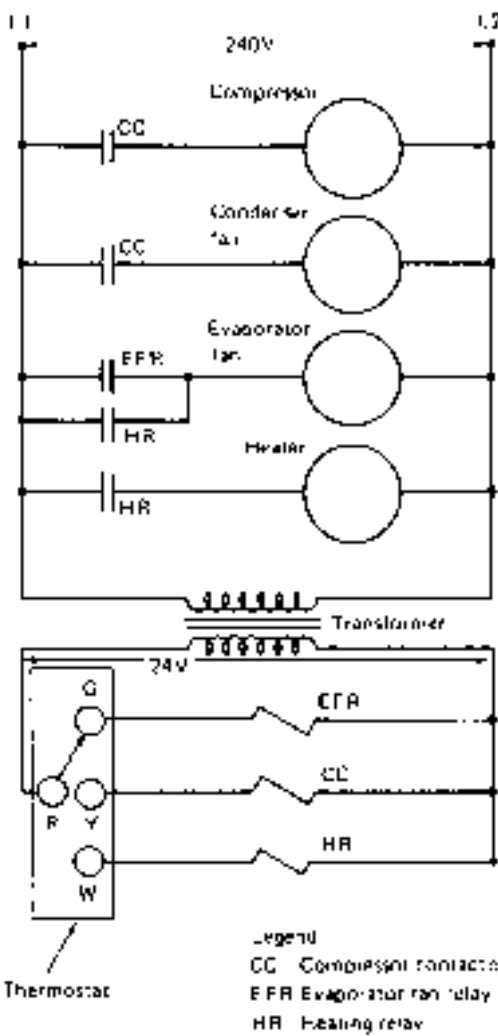

FIGURE 13.3 Ladder diagram for a heat-and-cool installation.
The ladder diagram makes it easier to see how these devices are wired. It consists of two wires drawn parallel and representing the main power source. Along each side you find connections. By simply looking from left to right, you are able to trace the required power for the device. Symbols are used to represent the devices. There is usually a legend on the side of the diagram to tell you, for example, that CC means compressor contactor, EFR means evaporator fan relay, and HR means heating relay (see Figure 13.3).
Take a look at the thermostat in Figure 13.3. The location of the switch determines whether the evaporator fan-relay coil, the compressor-contactor coil, or the heating-relay coil is energized. Once the coil of the EFR is energized by having the thermostat turned to make contact with the desired point (G), it closes the points in the relay, and the evaporator fan motor starts to move. This means that the low voltage (24 volts) has energized the relay. The relay energizes and closes the EFR contacts located in the high-voltage (240 volts) circuit. If the thermostat is turned to W or the heating position, it will cause the heating-relay coil to be energized when the thermostat switch closes and demands heat. The energized heating-relay coil causes the HR contacts to close, which in turn places the heating element across the 240-volt line, and it begins to heat up. Note that the HR contacts are in parallel with the evaporator fan-relay contacts. Thus, the evaporator fan will operate when either the heating relay or the evaporator fan relay is energized.